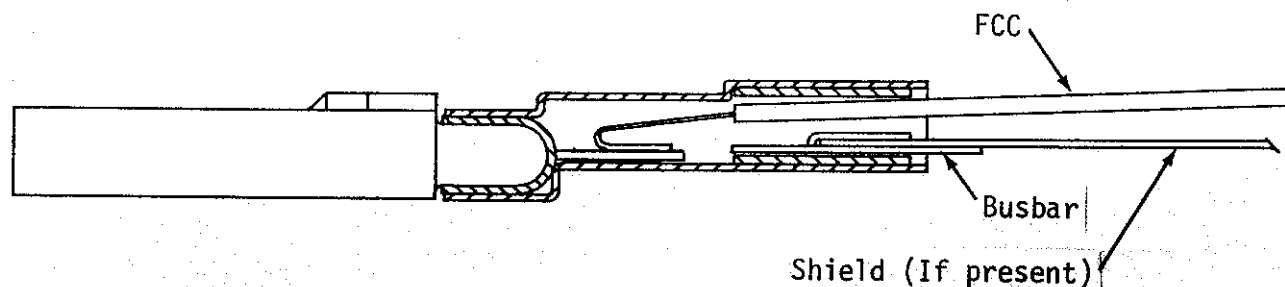

Figure 13. Position of Busbar Without Grounding Fingers
2. If a busbar or a shield/busbar assembly is being terminated in this insert, position the busbar as shown in Figure 13.